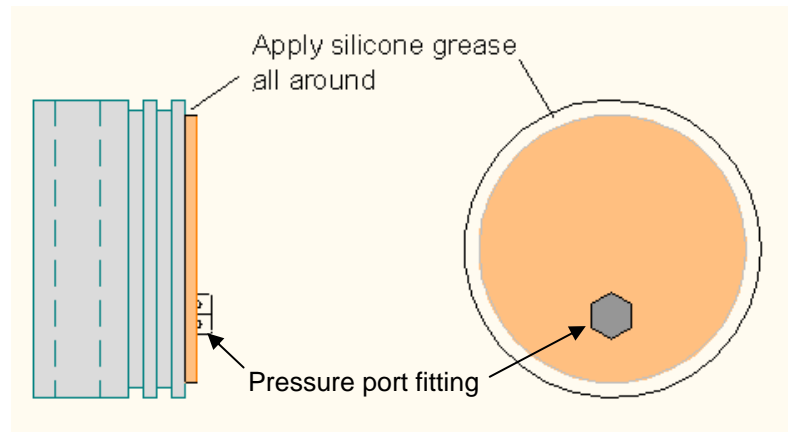

Figure 3 – Application of protective silicone grease on Forward Bulkhead
- 1. Confirm that pressure port fitting is installed in bulkhead and tightly fastened (ref. Fig.3)
- 4. Apply a generous amount of silicone grease on the bulkhead around the edge of the cork liner, as illustrated in Figure 3.